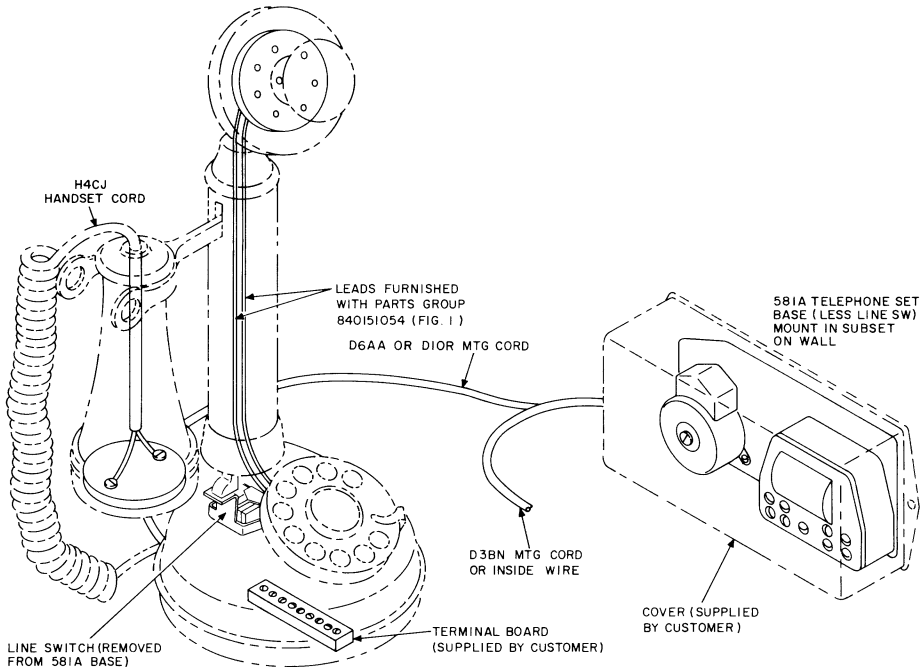

Fig. 6—Typical Installation of Candlestick Type Telephone Set
- (1) Remove line switch from 581A base (current model only).
- (2) Remove square snap-in cover from bottom of candlestick mounting base.
- (3) Mount line switch to customer's set with actuator toward terminal board.
- (4) A typical installation of a candlestick type telephone set is shown in Fig. 6.
- (5) If 581A base (subset) is wall mounted, adjust ringer volume control to "LOUD" before attaching subset to wall.